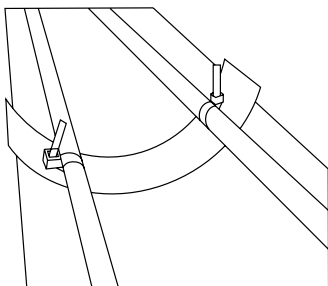

Figure 3. Bar attached to gutter
7. For round gutters the bar will need to be bent around the edge of the gutter, and the inside profile. Pliers can be used for this (see Figure 3).
9. All cable ties should be tightened and trimmed as in Figure 3.